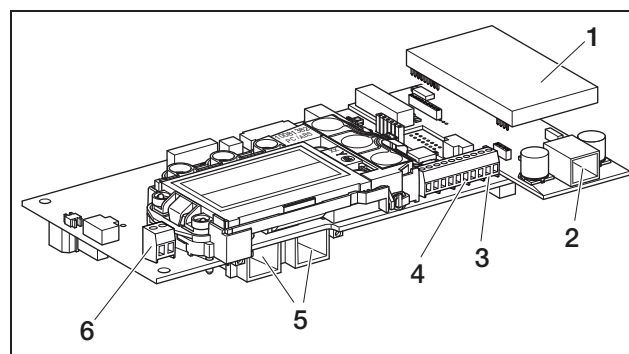

Fig. 48: Communications interface
- Insert the plug of the Ethernet/crossover cable into one of the corresponding sockets (5 in figure 48).
- Insert the plug of the telephone cable into the corresponding socket (2 figure 48).